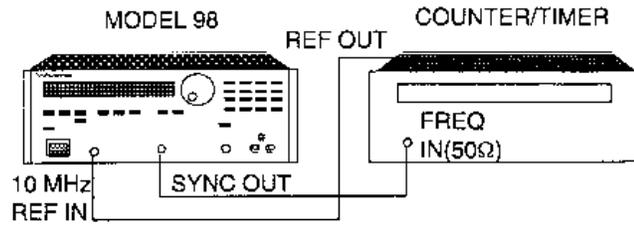

Figure 2-2. Frequency Measurement Setup
2. Connect the Model 98 and test equipment as shown in figure 2-2.